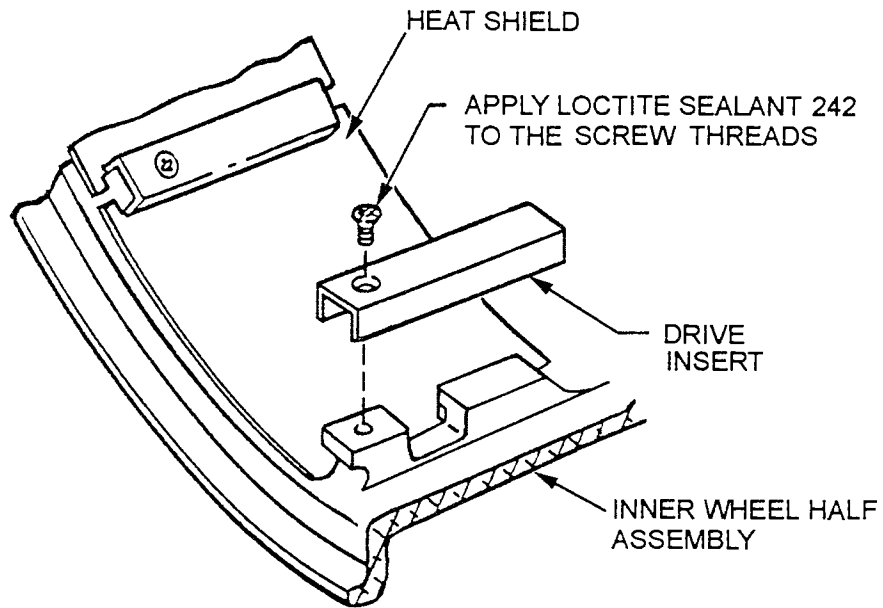

Figure 1.
- A. At the next scheduled wheel removal or tire change, remove and discard all the drive insert screws, P/N MS24693S270 and install new insert screws (refer to Figure 1).